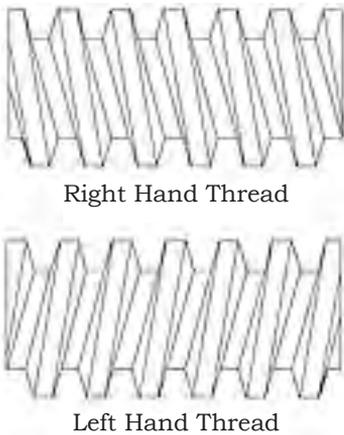
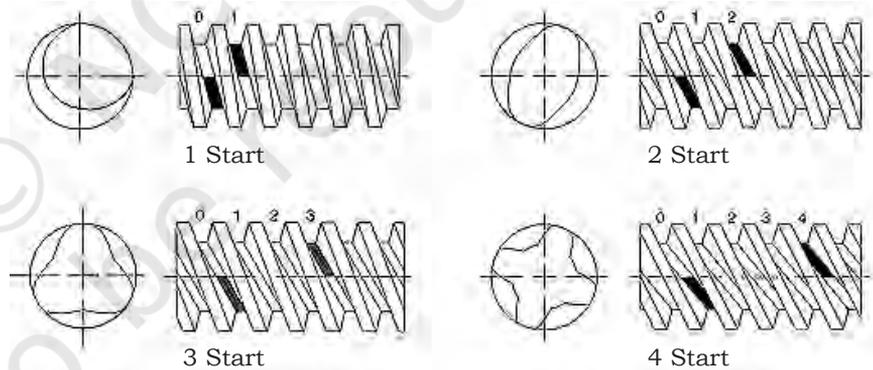

Fig. 2.4: Threads on the bolt
Fig. 2.5: Number of starts
A bolt thread is a ridge of uniform section in the form of a helix on either the external or internal surface of the cylinder. Internal threads refer to those on nuts and tapped holes and external threads are those on bolts, studs or screws. The helix of a thread can twist in two possible directions—right hand (RH) or left hand (LH) (Fig. 2.4). The number of screw threads may vary from 2 to 20 starts or more. As illustrated in Fig.2.5, if the end view is an offset circle, then the screw is a single start.